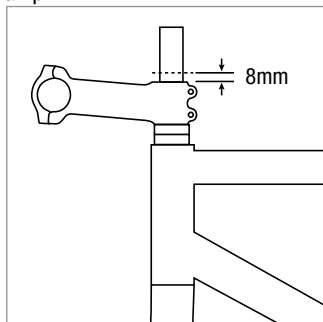

Figure 5
7. Install the stem on the steerer ensuring that it is flush against the spacers. Ensure the steerer tube extends at least 8 mm (Fig. 5).